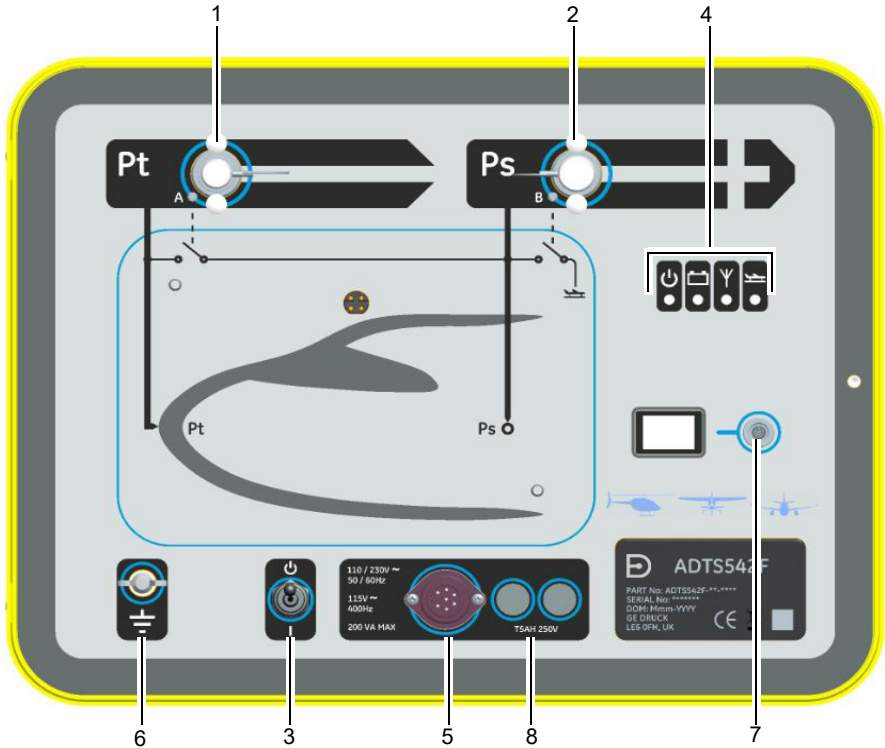

Figure 6: ADTS542F Front Panel
The two High Breaking Capacity fuses (8) (see Figure 6), located in the holders and mounted on the front panel, protect the unit. The fuses are connected in the live and neutral supply circuit and are rated at: T5AH 250V.
3.1 Power-Up Test (see Figure 6)